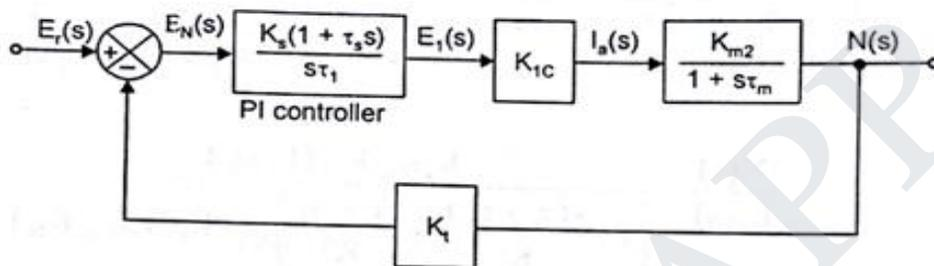

Figure 4.14: Speed-control loop with PI controller
The addition of integral feedback can be used to eliminate the steady-state error and to reduce the forward gain required. To obtain this integral component the proportional speed controller is replaced by a proportional integral (PI) type controller. Figure 4.14 shows speed control loop with PI controller.
From this figure 4.14,
Transfer function for the diagram of figure 4.14.